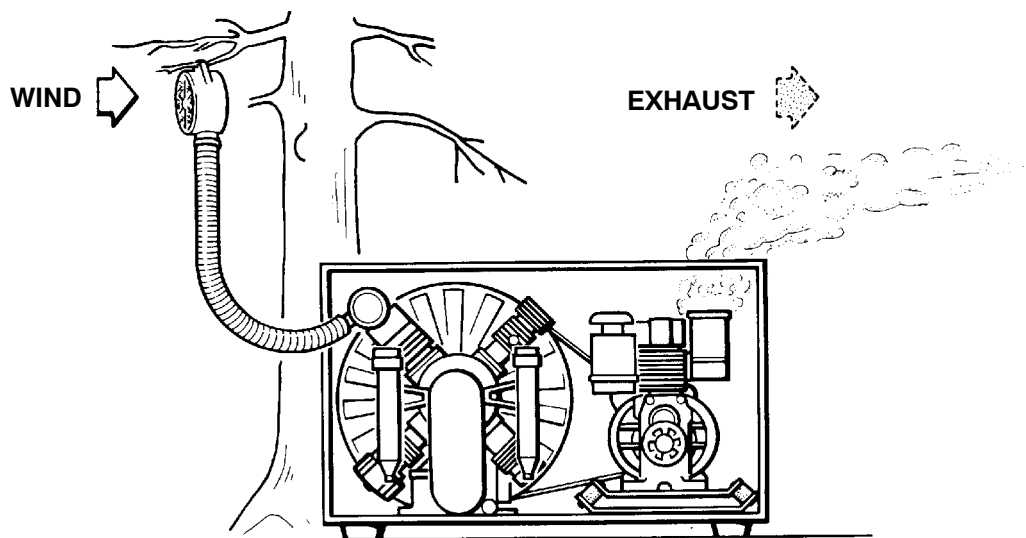

Fig. 7 Locating air intake hose
- On units employing petrol or diesel engine it is most important that only clean air be used. Position compressor in direction of wind so that exhaust fumes are blown away from the unit. It is good practice to have intake hose of at least 3 m length with pre-filter and intake filter. Pre-filter to be located 2 m above ground. See Fig. 7. This arrangement will ensure necessary spacing between exhaust outlet and air inlet.